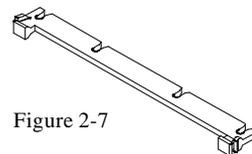

Figure 2-7
- HSS Top Bar (HSSTOP) - Plastic bar that clips onto the HSSBASE through the fins on the ATX heat sink. (Refer to Figure 2-7)